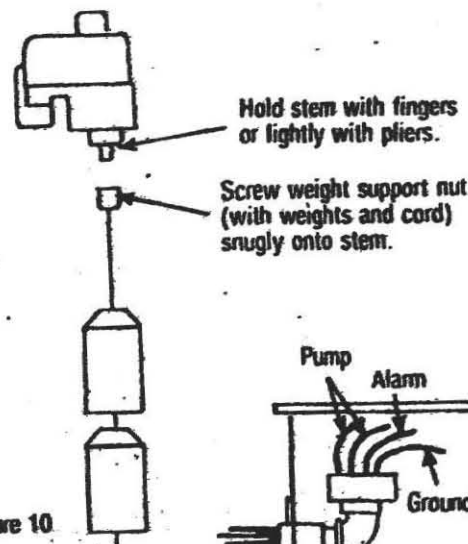

Figure 10
B. Screw the weight assembly onto the bottom of the switch plunger. (See Fig. 10).